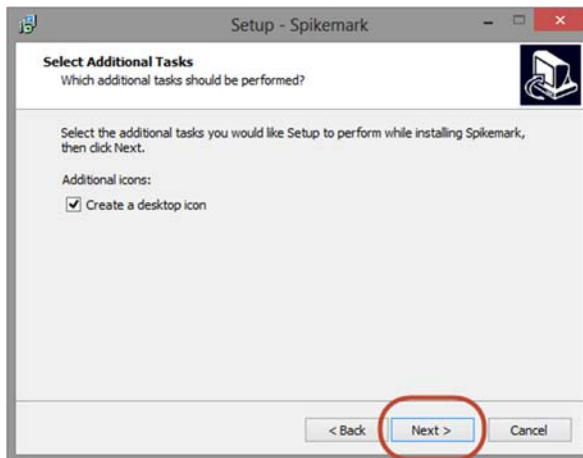

Figure 6
8. If you would like to have an icon on your desktop that you can use to launch Spikemark quickly, check **Create a desktop icon**. Click **Next**. (Figure 6)